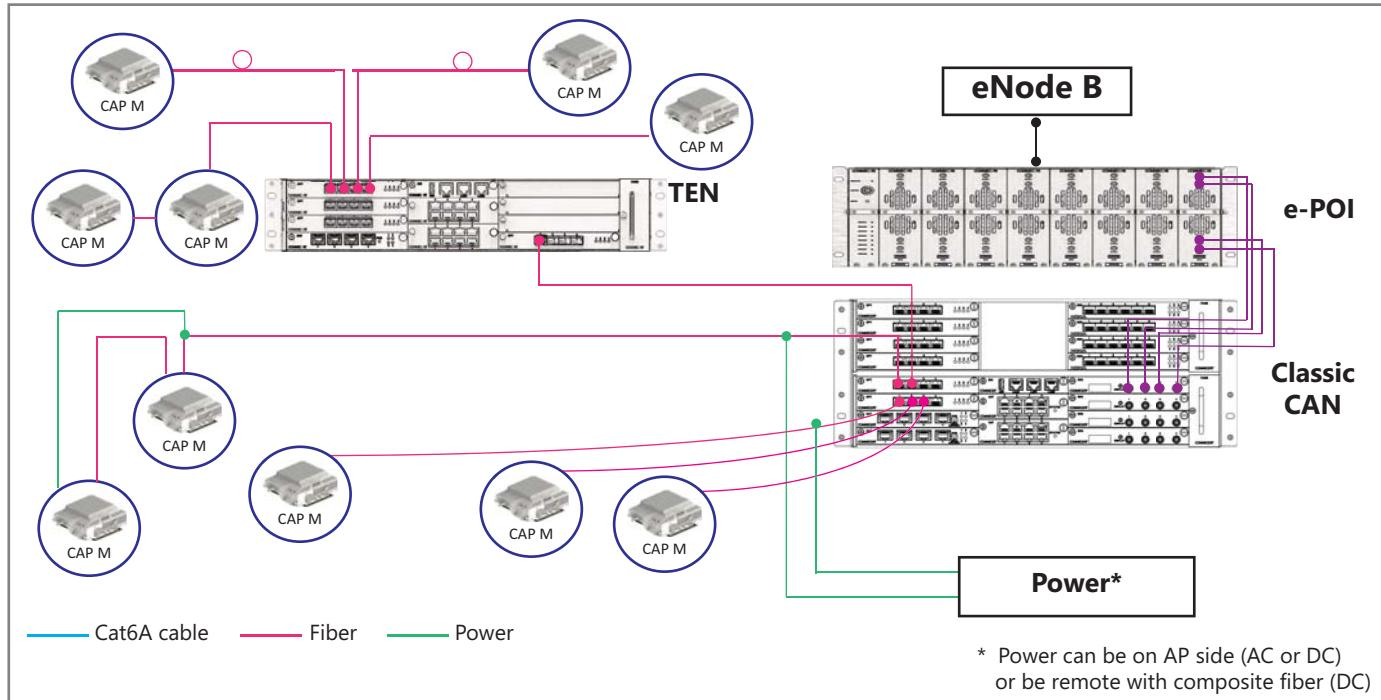

Figure 1. CAP M in an Era System using a Classic CAN
- updated Figure 1 on page 5, which shows an Era system in which the CAP Ms connect to a Classic CAN
On the downlink, the CAP M converts data arriving at the CAP M to analog signals and sends them to the Antenna port. On the uplink, received signals are digitized and serialized into data streams, which are sent back to the Classic CAN or TEN. Each CAP M can provide RF coverage for up to four specific frequency bands. Figure 1 shows how a CAP M can be deployed in an Era system.